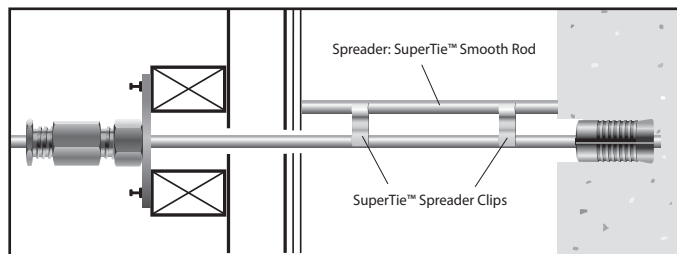

Figure 7.
STEP 7 – (See Figure 7)
An additional piece of Rod may be used to provide a method of aligning the form. Using a 5/16" drill bit (1/2" for 15K system), make holes about 2" deep, into which the "spreader" can be inserted (see Fig. 7). Cut these "spreader Rods" to an appropriate length so that the form will be aligned when touching them. Unit set when split is visible.
STEP 8 – (See Figure 7)